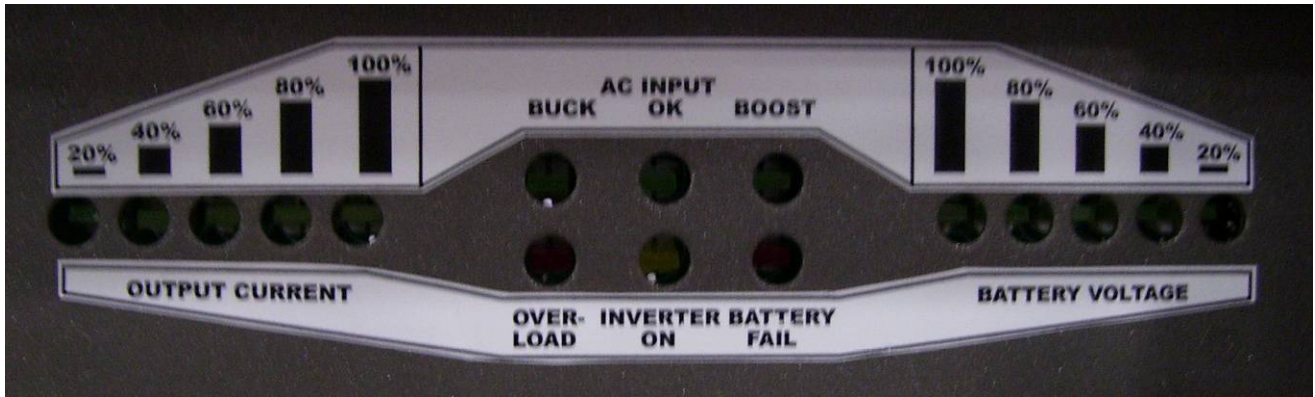
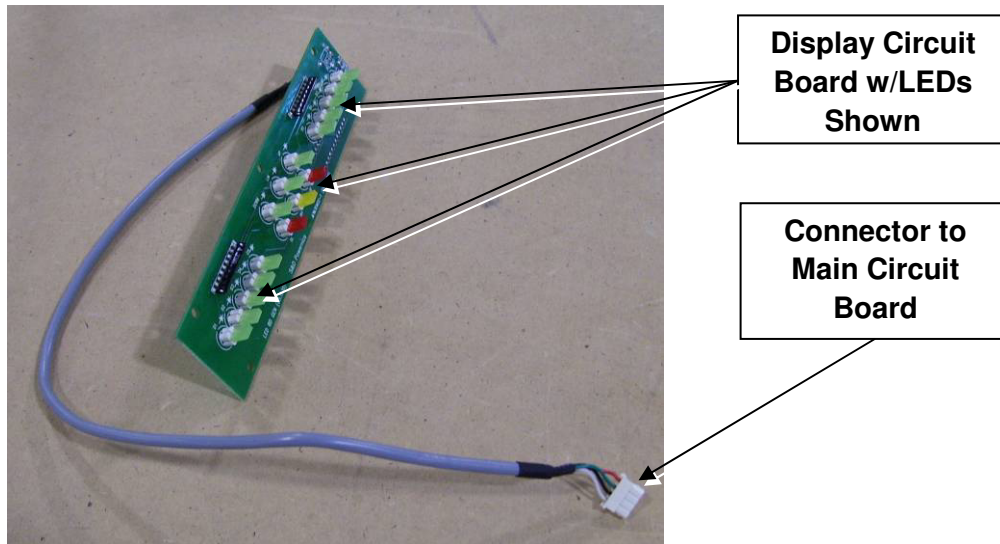

Figure 8: Panel Display Decals
Figure 9: Display Circuit Board
2.4 DISPLAY CIRCUIT BOARD – The display panel, pictured in Figure 8, uses the circuit board shown in Figure 9 to monitor both the output current and battery voltage.
- 4.24** Verify that all LEDs on the status display panel (see Figure 8) illuminate one by one. This may take approximately five (5) seconds.